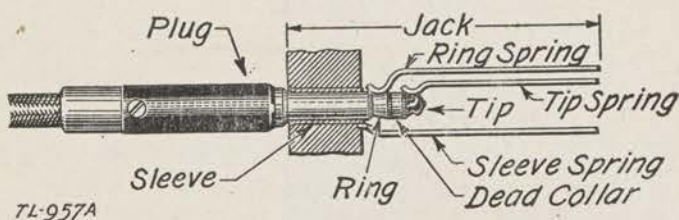

FIGURE 7.—Three-conductor plug and jack.
*b. Tip, ring, and sleeve.*—In subsequent discussions, frequent reference is made to the terms “tip,” “ring,” and “sleeve.” This method of designating the three conductors (two line wires and one control wire) is derived from the plug used on a manual switchboard. One of the cord conductors is connected to the tip of the plug, a second conductor is connected to the ring of the plug, and the third conductor (control wire) is connected to the sleeve of the plug. This method of distinguishing between the various cord conductors has been applied to the line circuit. The tip of the plug makes contact with the short spring of the jack. This jack spring is designated as the tip spring, and the side of the line connected to the tip spring is designated as the tip side of the line, or tip conductor (fig. 7). The ring of the plug makes contact with a longer jack spring. This longer jack spring is designated the ring spring,